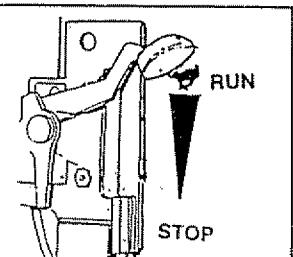

FIG. 16
- Place engine throttle lever (located beneath fuel tank) in the RUN position (Fig. 16).